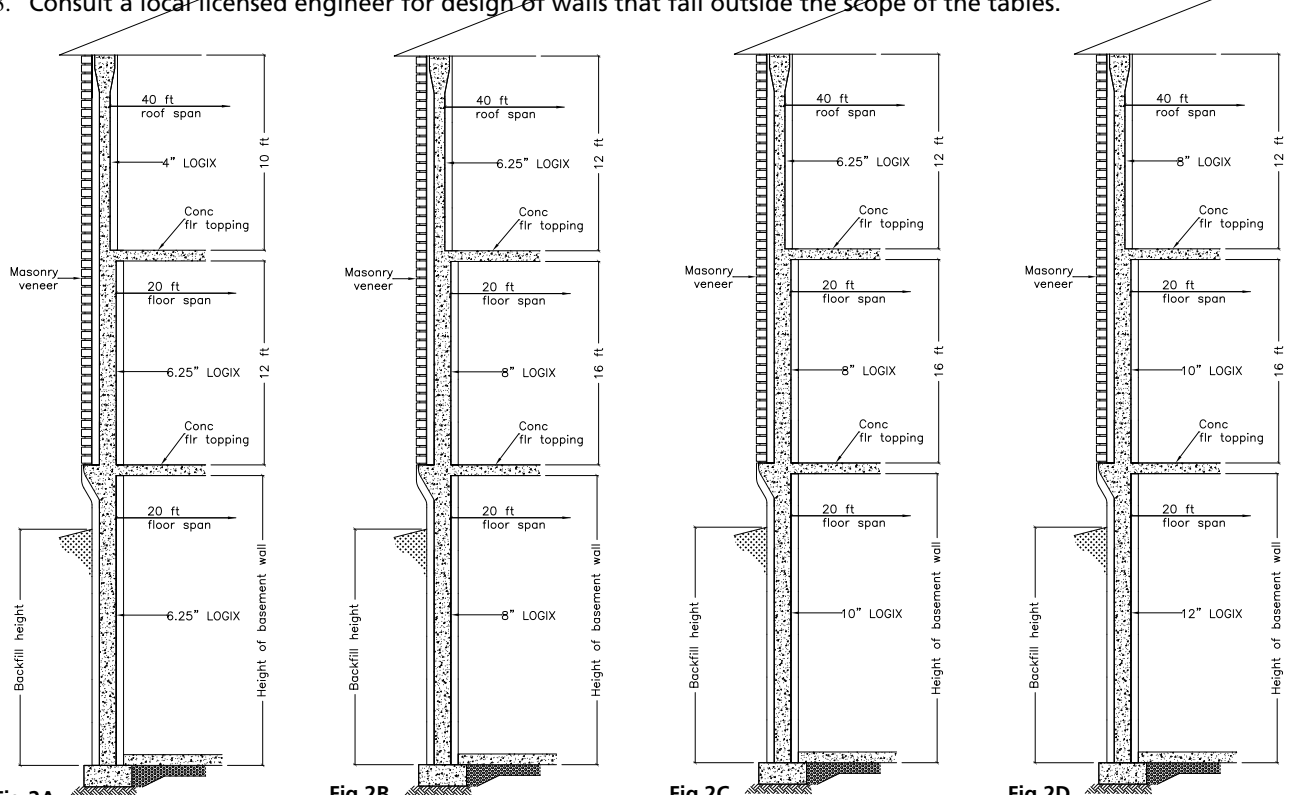

Fig 2A
- Figures 2A, 2B, 2C and 2D, Below-grade wall sections
LOGIX below-grade Tables 1A to 1D shall be used in conjunction with corresponding Figures 2A to 2D, the notes listed below, and the building limitations noted in the "Reinforcement Tables" section, which form the basis of these tables.
3. Table 1A shall be read in conjunction with Fig 2A, and section "Notes for Below-grade Wall Tables."